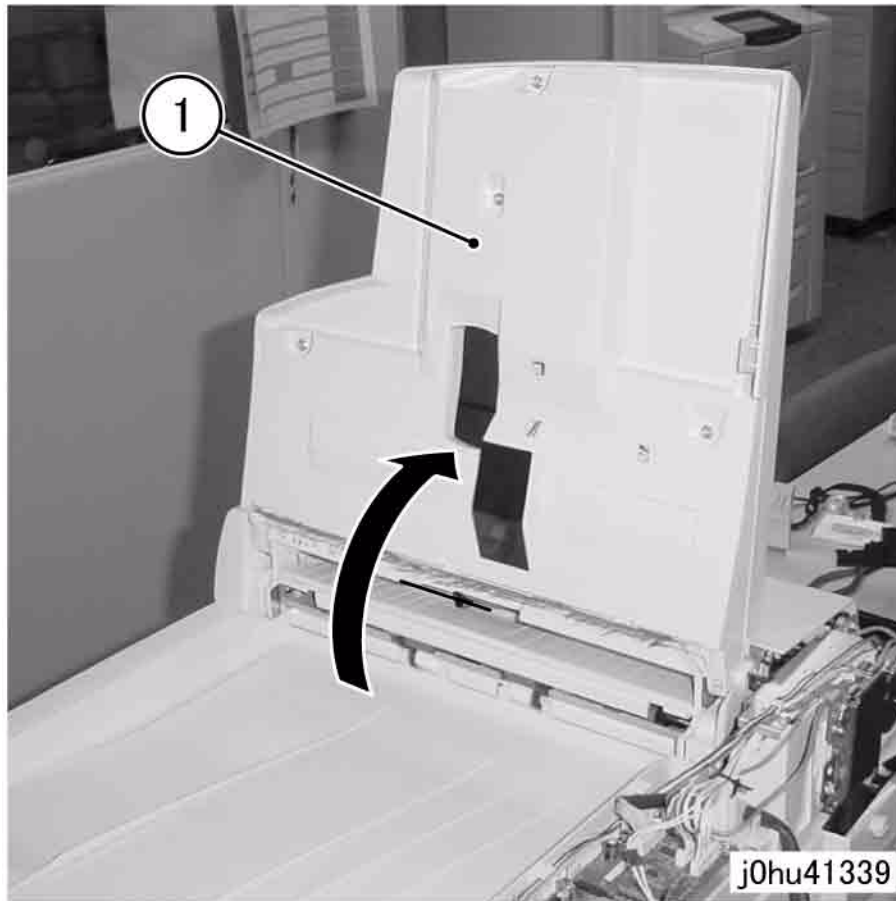

Figure 1 Raise the Document Tray Assembly
2. Raise the Document Tray Assembly in the direction of the arrow (Figure 1).